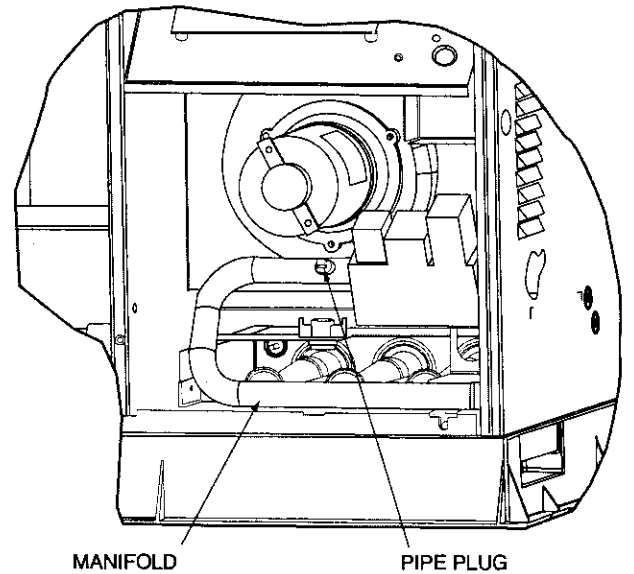

Fig. 13—Burner Assembly
2. Remove pipe plug on manifold (See Fig. 13) and connect manometer. Turn on gas supply to unit.